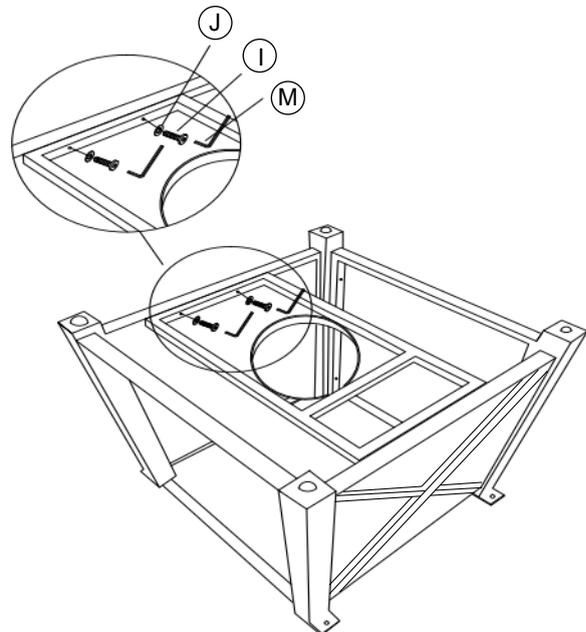

Figure 2
2. Attach the gas cylinder holder (G) to the left side (c) and right side(D) with 4 bolts M6\*35mm (I) and 4 flat washer (J) by using the allen wrench (M) ,(see figure2).